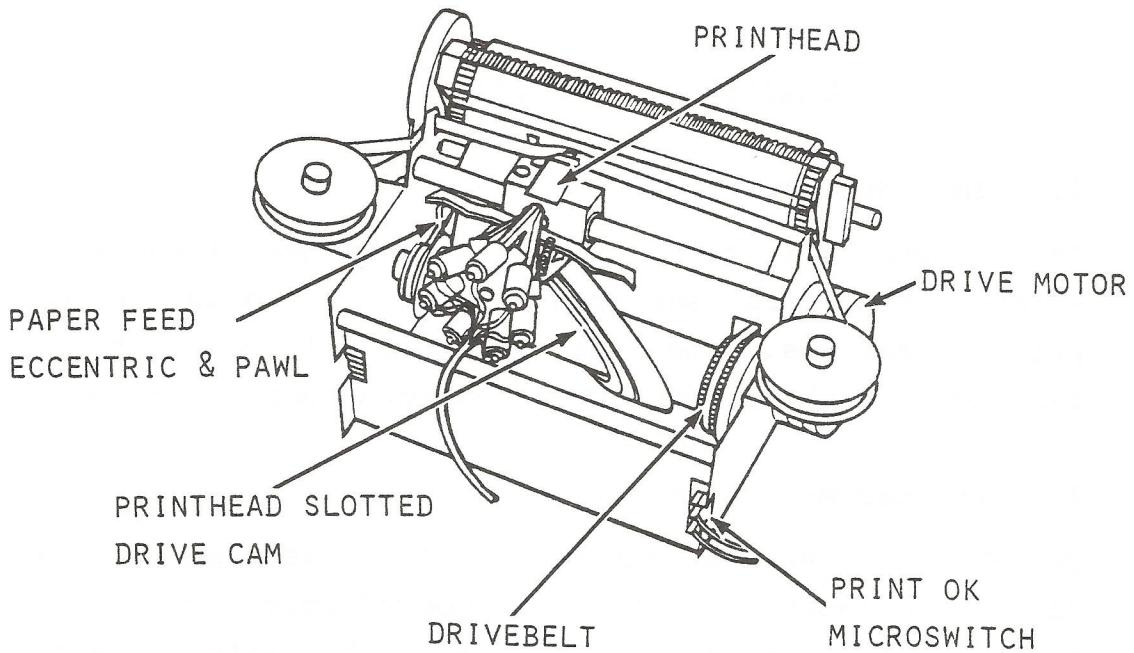

Figure 4-1. Print Mechanism-Front View
The 820 Printer Drive Mechanism is used to drive the print head across the print area and return the print head to its home positions. The operation consists of the following components: (Refer to Figure 4-1)
- Paper Feed Eccentric - Connects to the drive cam to operate the Paper Feed Pawl. (Refer to Figure 4-1.)